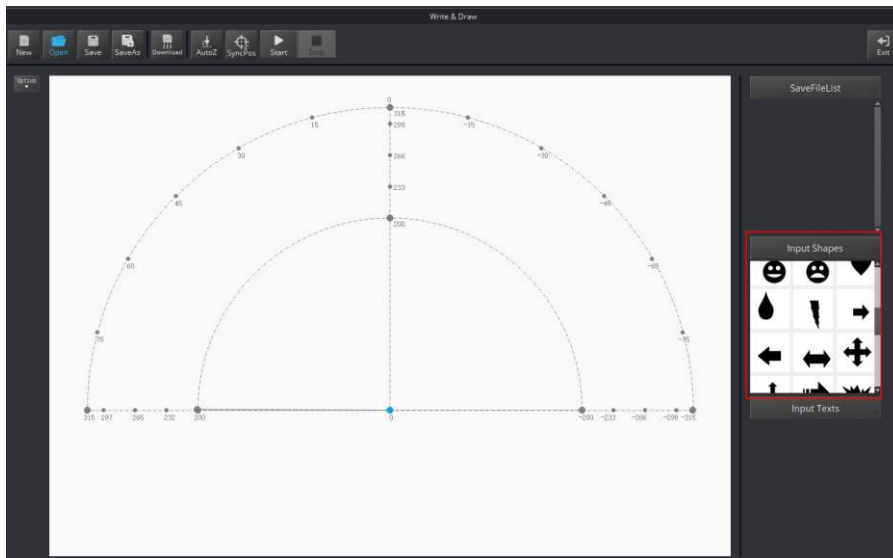

Figure 5.44 Insert a system image file
- Click a shape in the **Input Shapes** area, as shown in Figure 5.44.